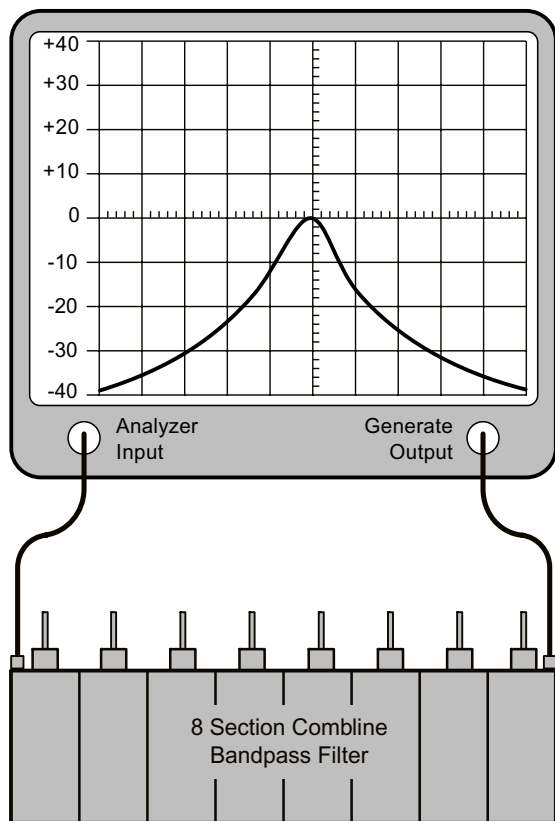

Figure 15: Preselector Tuning.
- 1) Connect test equipment as shown in **Figure 15**.